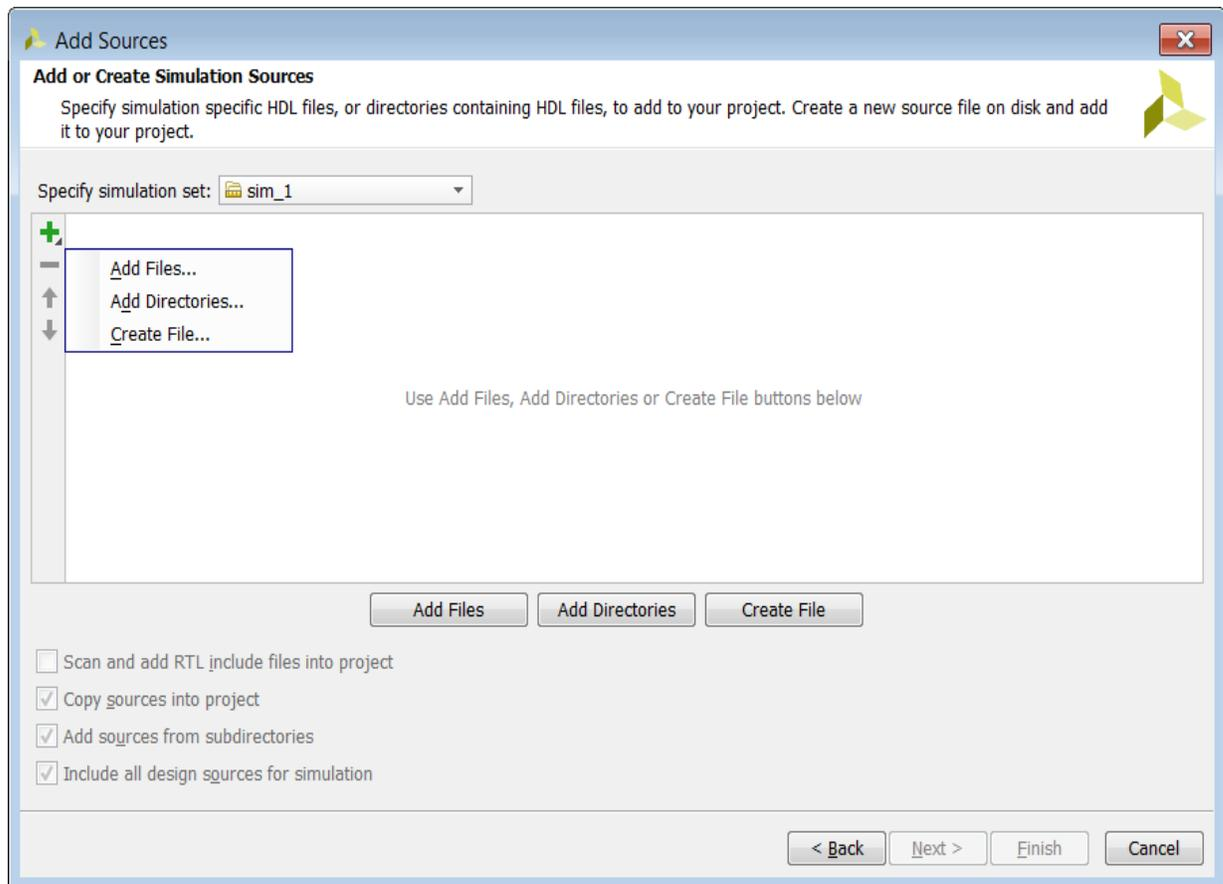

Figure 9-25: Add Source Dialog Window
5. In the Add Sources dialog box, click the “+” symbol Figure 9-25 and select **Add Files**.